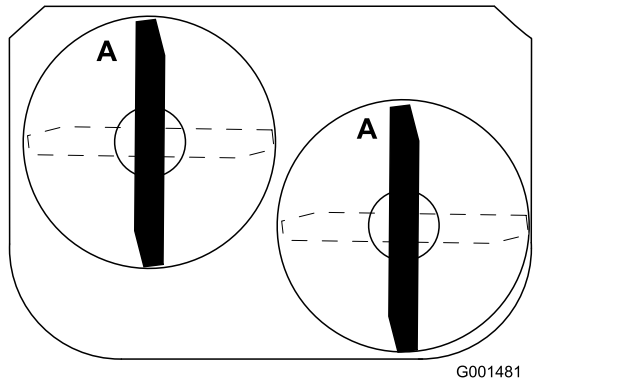

Figure 49
1. Rotate the blades until the ends face forward and backward (Figure 49).